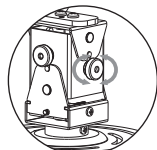

figure 15
2. Vertical adjustment: rotate the adjusting button (3-3) for vertical angle, figure 15